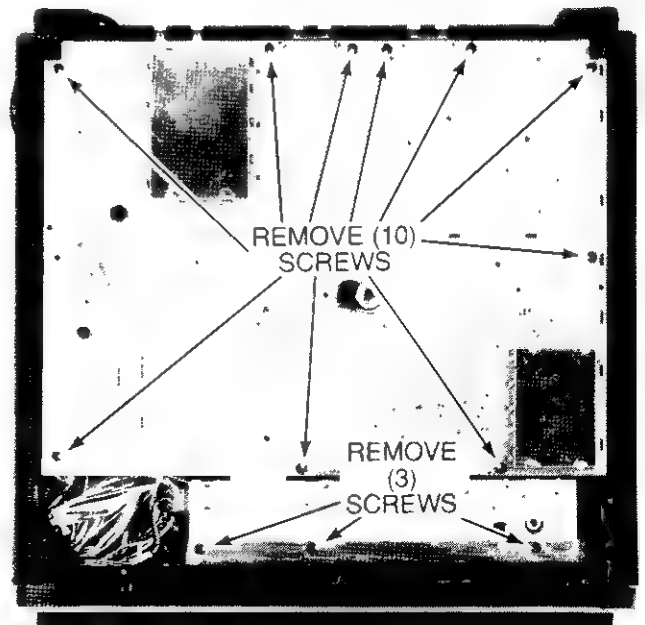

Fig. 11—Master Circuit Board
2. Remove thirteen (13) pozi-drive (+ head) screws Fig. 11.
Caution: Replace circuit board mounting screws only in holes from which they were removed (Fig. 11).